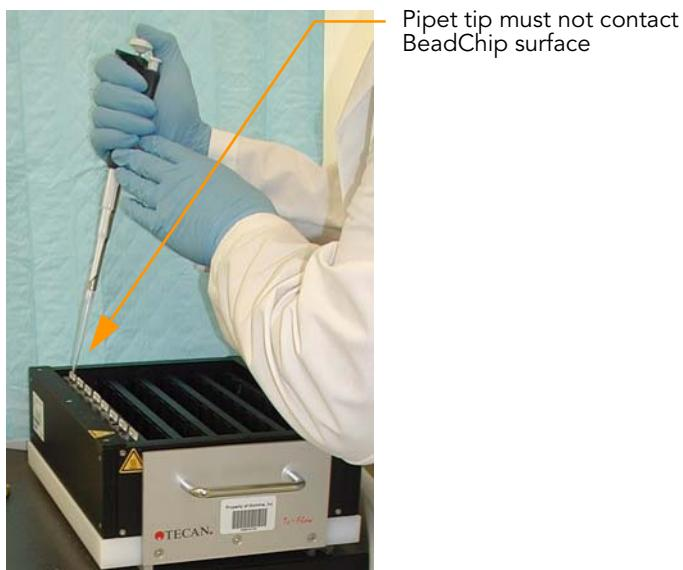

Figure 71 RA1 into Each Flow-Through Chamber
- a. 450 µl RA1 (Figure 71) and incubate for 1 minute. Repeat four times.